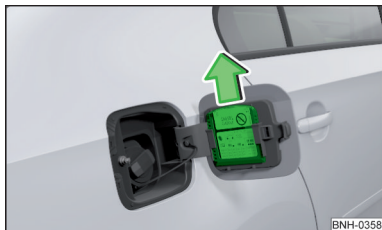

Fig. 115
- Slide out the ice scraper in the direction of the arrow » Fig. 115.